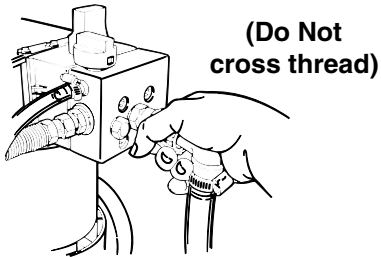

Figure 15 - Attaching Suction Tube
1. Attach Suction Tube to inlet valve and **tighten firmly by hand**. See Figure 15. Be sure threads are straight so the fitting turns freely without binding.